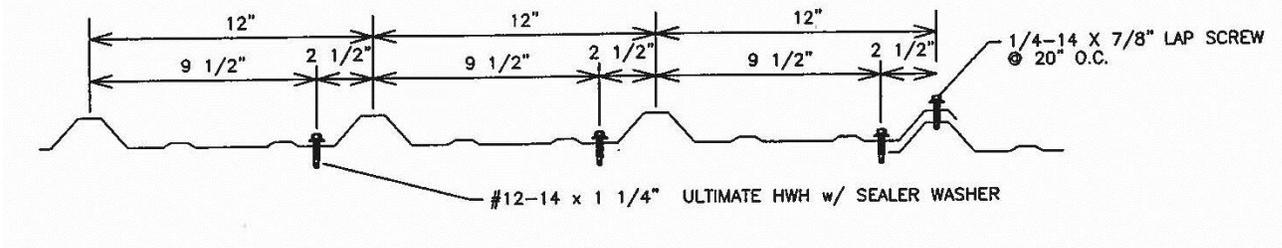

Figure 1. Minimum 26-Gauge Panel Fastener Pattern
- **Attachment of Metal Roof Panels to the Steel Purlins:** Secure the metal roofing panels to the steel purlins with No. 12-14 x 1-1/4" long HWH self-driller screws with a sealing washer manufactured by Atlas. Locate a line of fasteners along each steel purlin. Table 1 specifies the fastener pattern and the spacing of the fasteners. Use fasteners long enough to ensure a minimum penetration of three pitches of thread below the steel purlin. Refer to Figure 1 in this evaluation report.
- **Panel Ends and End Laps to the Steel Purlins:** Minimum No. 12-14 x 1-1/4" long HWH self-driller screws with a sealing washer manufactured by Atlas. Locate a line of fasteners in a 12"-12"-12" pattern along the steel purlin. Use fasteners long enough to ensure a minimum penetration of three pitches of thread below the steel deck. Refer to Figure 1 for an illustration of the fastener pattern.
- **Panel Edges to the Steel Purlins:** Minimum No. 12-14 x 1-1/4" long HWH self-driller screws with a sealing washer manufactured by Atlas. Locate a line of fasteners in a 12"-12"-12" pattern along the steel purlin. Use fasteners long enough to ensure a minimum penetration of three pitches of thread below the steel deck. Refer to Figure 1 for an illustration of the fastener pattern.